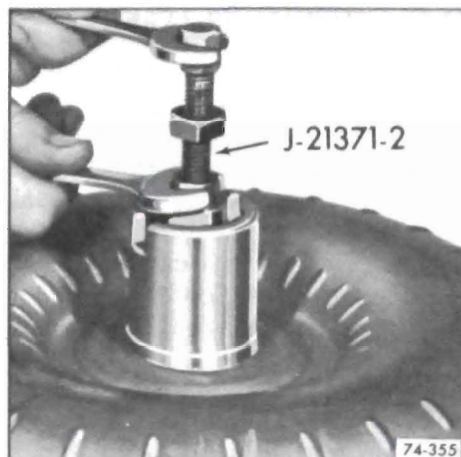

Figure 74-355
a. Install Tool J-21371-2 and tighten brass nut. See Figure 74-355.